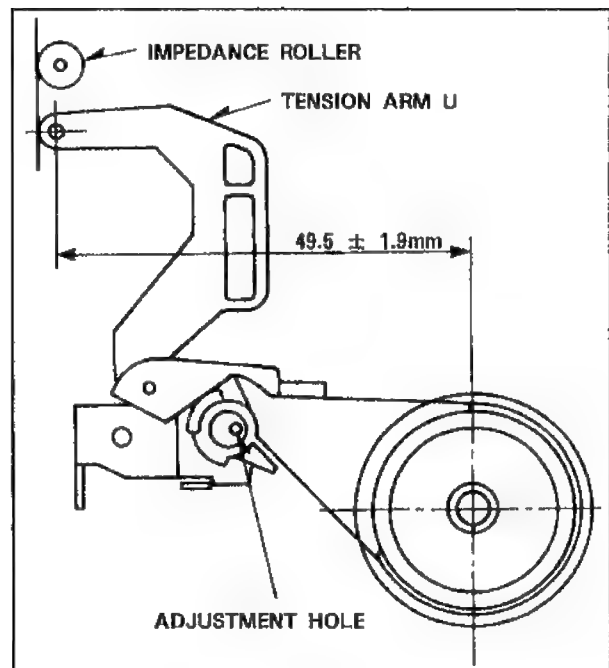

Fig.M26
3. Adjust the hole of the Tension Band Unit by Hex wrench so that the left edge of the Impedance Roller and Tension Arm Unit as shown in Fig.M26.